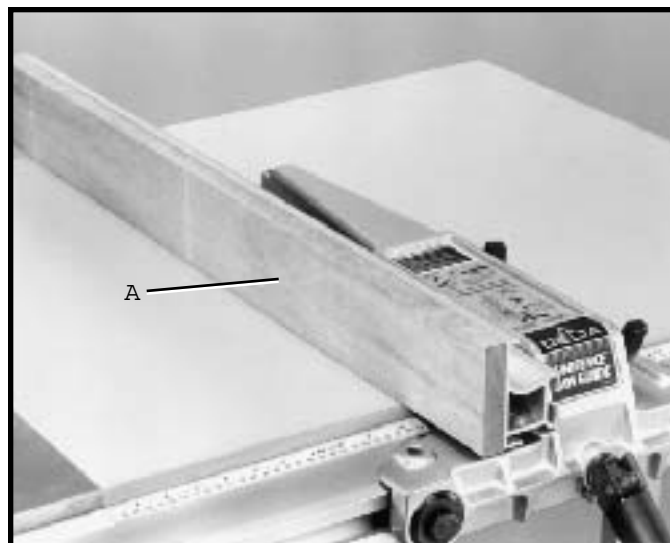

Fig. 123
It is necessary when performing special operations such as when using the moulding cutterhead to add wood facing (A) Fig. 123, to one side of the rip fence as shown. The wood facing is attached to the fence with wood screws through holes drilled in the fence. 3/4-inch stock is suitable for most work, although an occasional job may require one-inch facing.³⁸